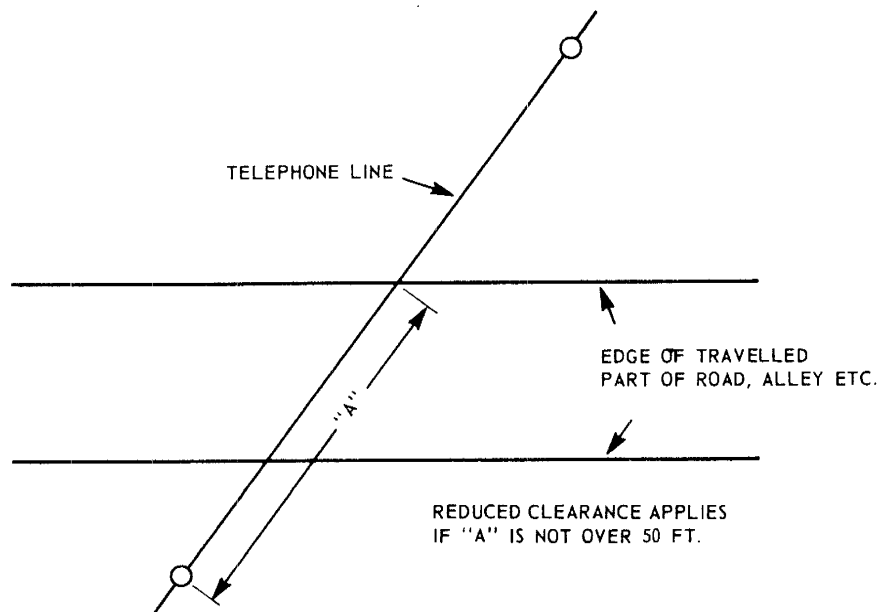

Fig. 1
**1.05** When drop wire sags exceed about two or three feet, it will generally be quite advantageous to locate poles so as to avoid having the middle of the crossing span occur above the travelled part of the road, alley, or driveway. This will frequently be the case when the pole is within 50 or even 75 feet of the far edge of the road, alley or driveway, (distance "A" in Fig. 1).